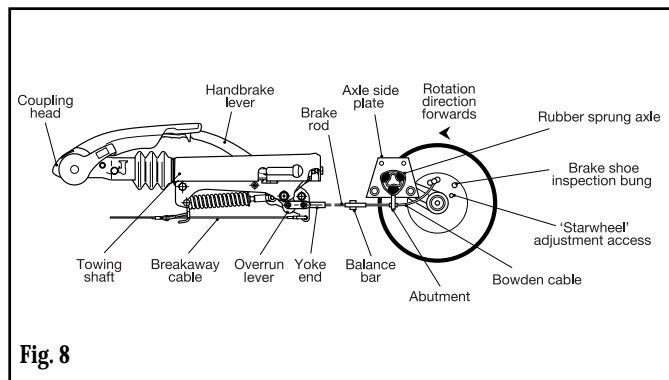
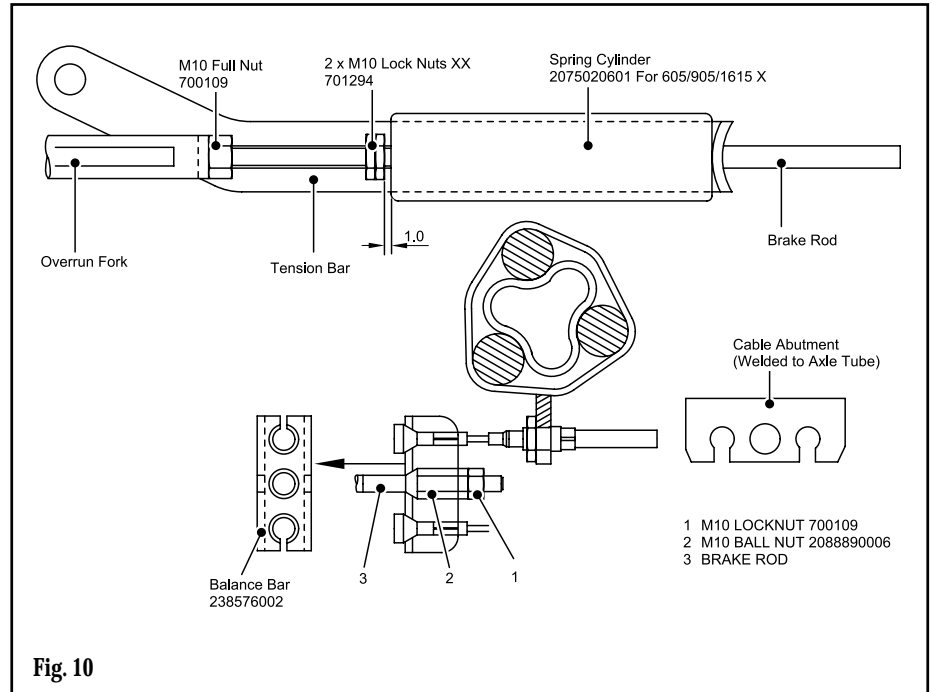

Fig. 8
Fig. 10
- i. Ensure the towing shaft with coupling heads is pulled fully forward (fig. 8).
- ii. Release the handbrake to the fully off position. If the handbrake will not go down the whole way because of the fairing or any other obstruction; then the fairing must be cut away and/or the obstruction removed to achieve this desired position. It will not be possible to set up the braking system properly when the handbrake is not in the fully off position (fig. 8).
- iv. Remove the inner plastic bung from the backplate to expose the 'starwheel' adjuster access (figs. 8 & 9).
- vii. Check the adjustment at the end of the brake cable where it is secured to the abutment (bracket) welded to the centre of the axle. When the inner cable is pulled out it should extend between 5 and 8 mm (fig. 8). (On tandem axles a double abutment is fitted to the front axle only).
- x. Ensure the balance bar (compensation) is being pulled evenly. This bar (double on tandem axles) should always be paralleled with the axle tube when pulled (figs. 8 & 10). Adjust M8 lock and ball nuts, if necessary, to achieve correct parallel position (fig. 10).
Over adjustment to the long ball nut (Fig 10), could induce movement of the inner brake cable, reducing the effective clearance of the brake shoes. If the over run lever will not make contact, it is possible the two lock nuts, forward of the spring cylinder, are incorrectly adjusted. Loosen the nuts and adjust the brake rod as above (Figs 8 & 10).
xiii. Adjust the two locking nuts, forward of the spring cylinder (fig. 10), (on some chassis a single Nyloc nut is used) to give 1mm of clearance on the spring cylinder. This cylinder (the energy store for the handbrake operation) must be able to rotate only, not slide on the brake rod.
(See Fig. 10). If the overrun assembly is fitted with a gas strut handbrake then no spring cylinder is fitted - therefore ignore this paragraph).